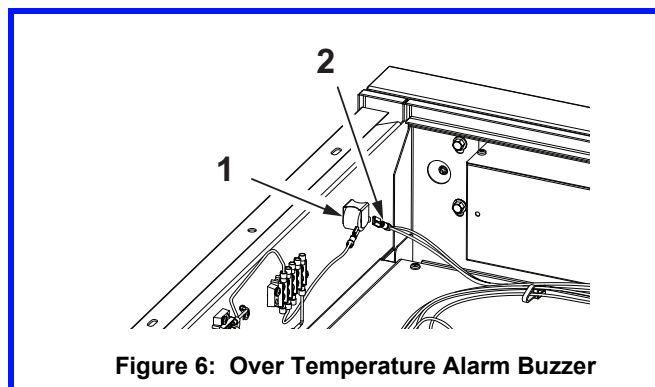
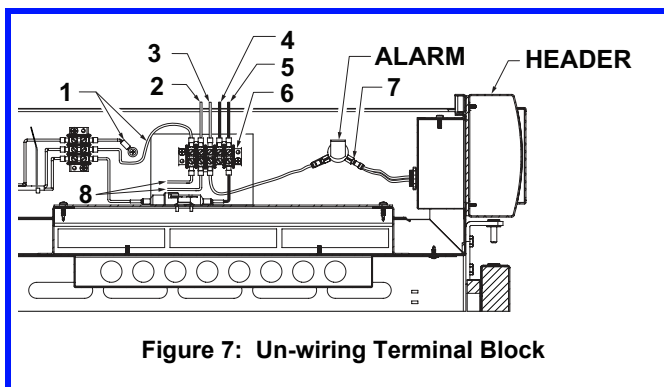

Figure 6: Over Temperature Alarm Buzzer
Figure 7: Un-wiring Terminal Block
- The only remaining wires to disconnect are the lead to the Over Temperature Alarm Buzzer and the power leads to the 5-Position Terminal block on the cabinet side wall. See Figure 7.
2. Connect lower lead for the Over Temperature Alarm Buzzer (See Figure 7, Item 7) if unit is a dual cabinet warmer model. Connect the wire/s to the Buzzer. See Figure 6.